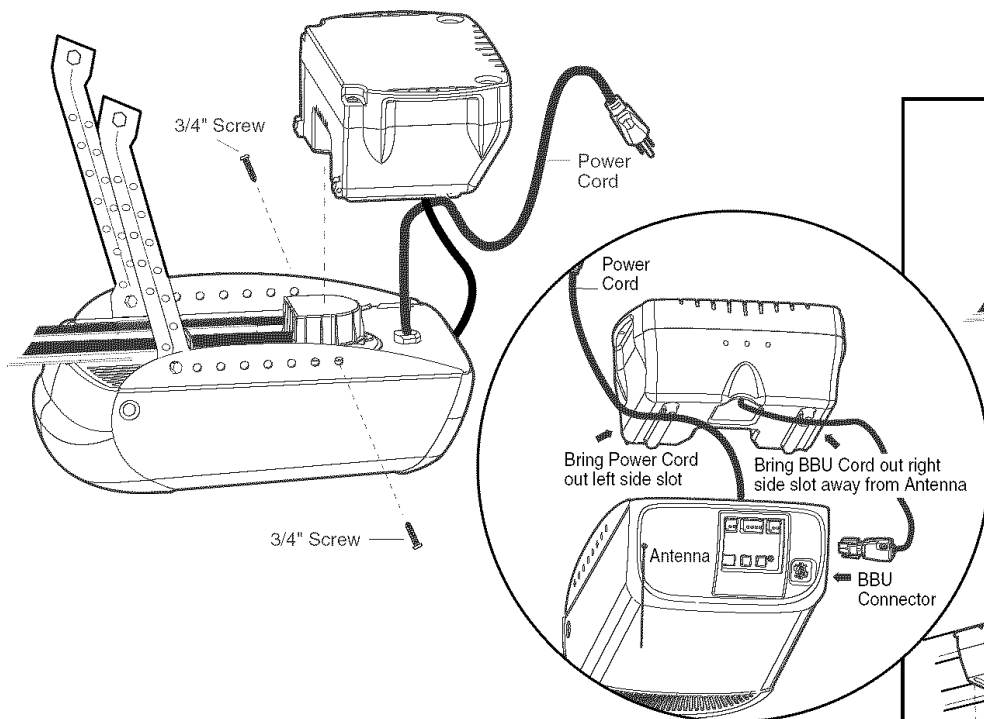

Figure 1
- Position the BBU on top of the motor unit. Make sure the motor unit power cord is drawn out from beneath the BBU. The BBU should sit firmly on top of the motor unit. Adjust angle iron placement so that it is out of the way of the BBU's installation (Figure 1).